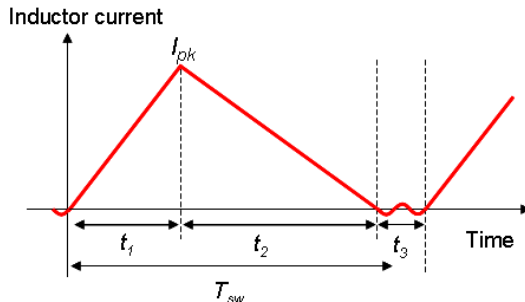

Figure 5. Inductor Current in DCM
The current waveform of the inductor (L) during one switching period (T_{sw}) is portrayed by Figure 5.